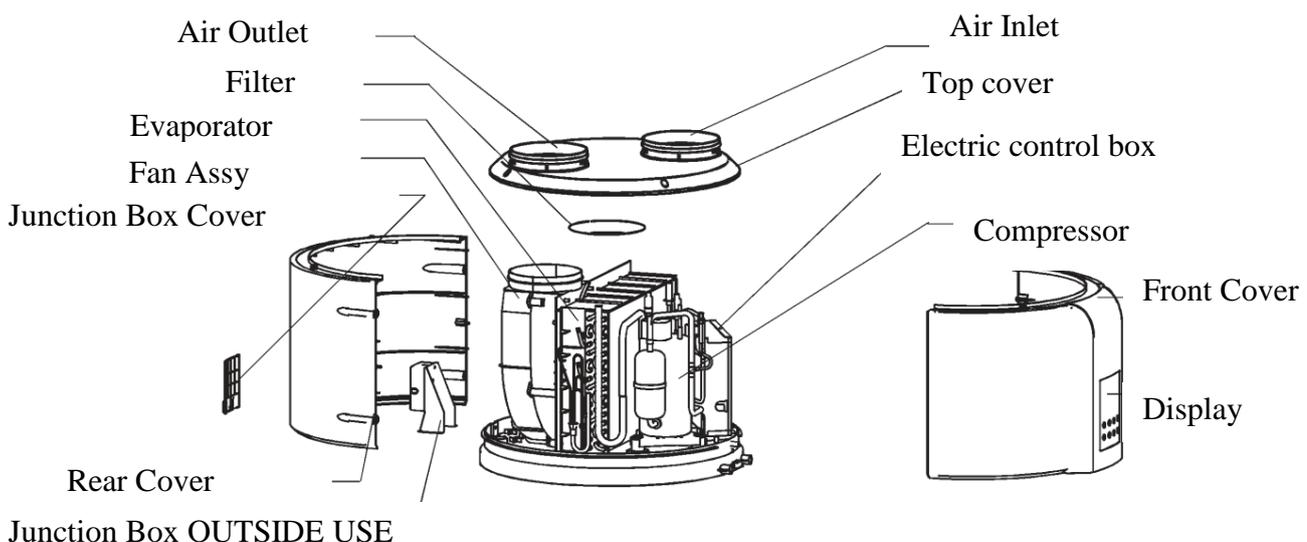

Figure 2.7.-1.
HB300(C) heat pump water heater is basically composed of an upper part (**Figure 2.7.-1.**) containing heat pump equipment and a lower part (**Figure 2.7.-2.**) containing the storage tank. The storage tank of the sanitary hot water heater having a volume of – is covered by an enamel coating internally and by a thick polyurethane insulation layer having large efficiency externally, and the latter is covered by plastic surface of the appliance. The pipe radiator, controlling indicator anode electric and magnesium indicator anode located on the closing cover are placed on a horizontal axle common with the closing cover.
The following parts are placed under an easily accessible and adequately insulated plastic coverage: compressor, thermostatic expansion valve, evaporator, fan ensuring adequate air flow and all the other parts displayed on **Figure 2.7.-1.**